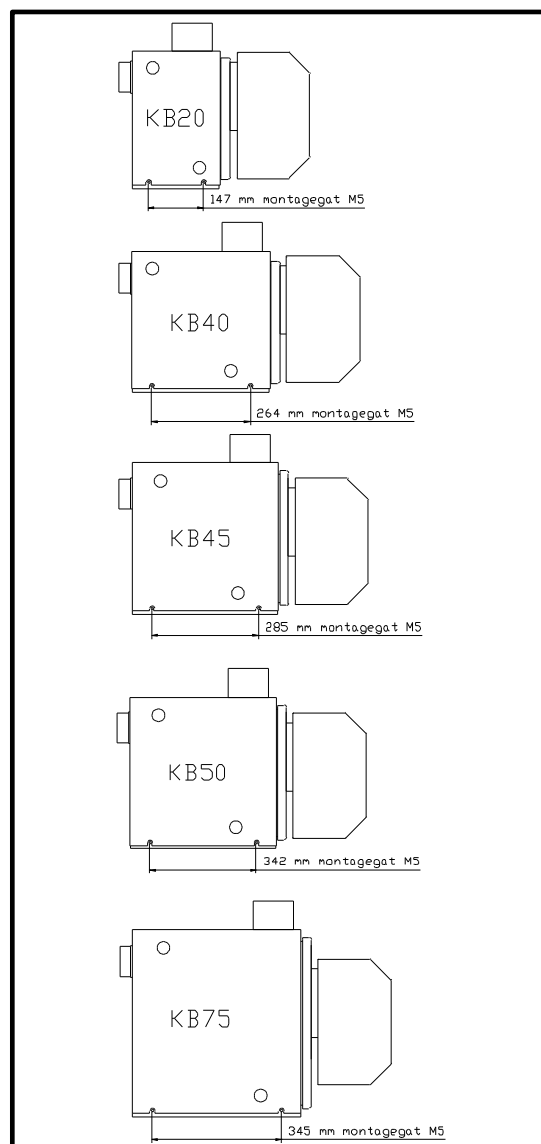

Figure 1
- To avoid movement secure the base of the boiler by using the holes with M5 thread in the feet from the boiler (figure 1)